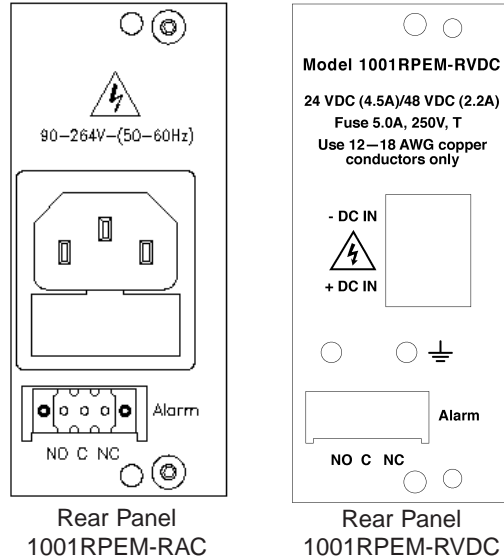

Figure 2. Models 1001RPEM-RAC & 1001RPEM-RVDC rear panel
The rear panels (figure 2 below) feature a 3 position, screw type terminal plug for the alarm connections. Both normally-open (NO) and normally-closed (NC) relay contacts are provided. Choose the appropriate set of contacts as required in your application. The following describes the “NO” and “NC” functions: